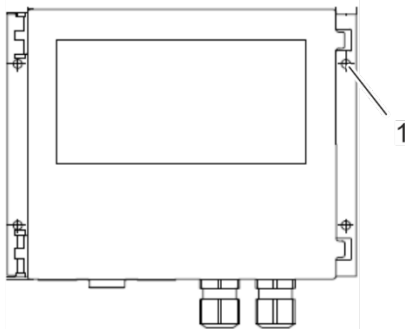

Fig. 81: Rotor cleaner drive drill holes
2. Fasten the cleaner drive to the rotor housing using at least 3 drill holes (Fig. 81/1) with self-tapping screws.